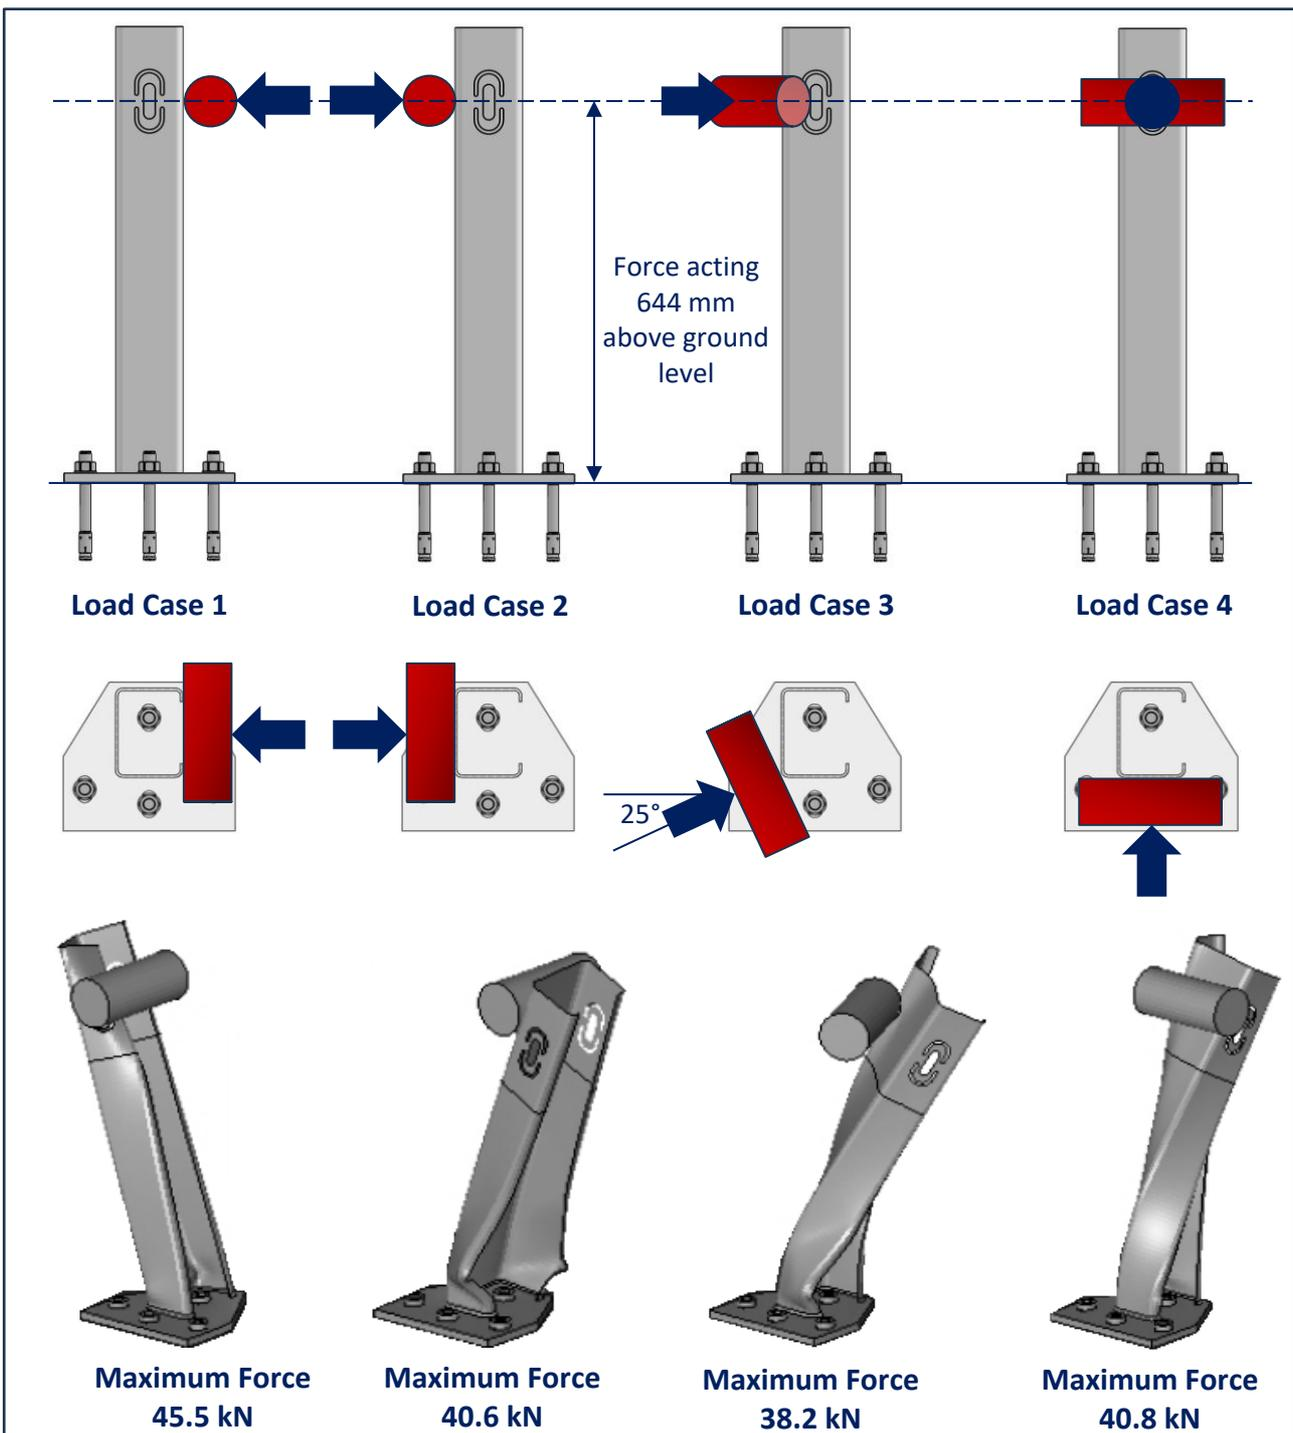

Figure 10: Load Analysis of RamShield® Low Deflection Posts with Baseplates.
Analysis was undertaken using four (4) load conditions as shown in Figure 10 to identify the maximum loading condition.